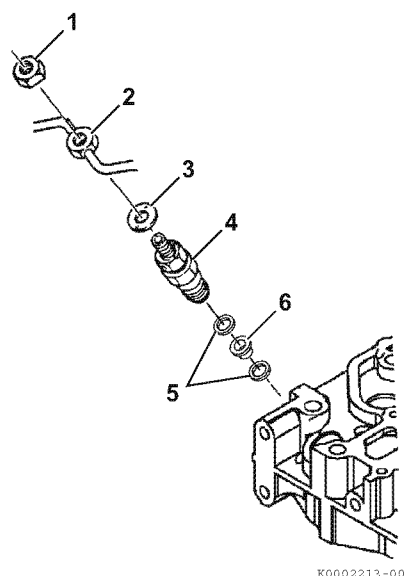

Figure 7-32
1. Insert the nozzle gaskets (**Figure 7-32, (5)**) and nozzle protector (**Figure 7-32, (6)**) in the cylinder head.
2. Install the fuel injector (**Figure 7-32, (4)**) in the cylinder head and tighten to specification.
3. Install new copper washers (**Figure 7-32, (3)**) and high-pressure and return fuel lines (**Figure 7-32, (2)**). See *Installing the High-Pressure Fuel Injection Lines* on page 7-11 and *Installing the Fuel Return Line* on page 7-11. Tighten fuel line nuts (**Figure 7-32, (1)**) to specifications.